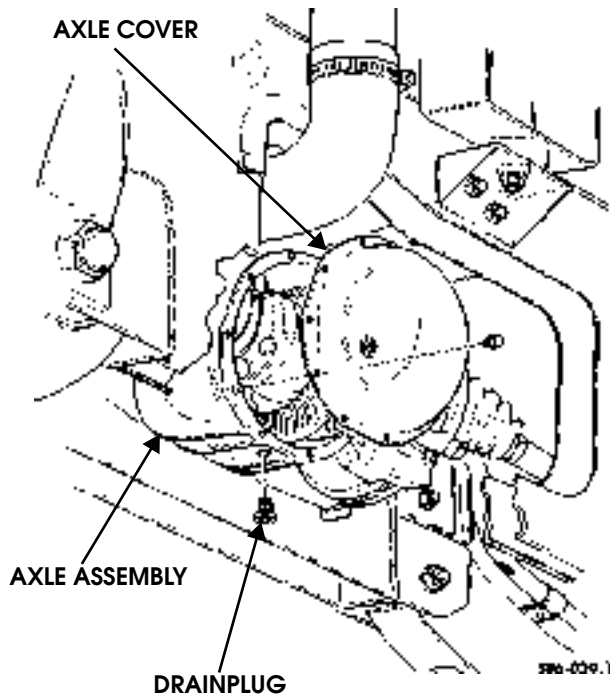

Figure 9-53: Axle Assembly Cover Service
1. Remove drainplug from axle assembly and drain axle assembly (Figure 9-53).
1. Clean axle assembly cover, bolts, and axle assembly with solvent (Figure 9-53).
2. Thread drainplug into axle assembly and tighten to 13-18 lb-ft (18-25 N•m) (Figure 9-53).